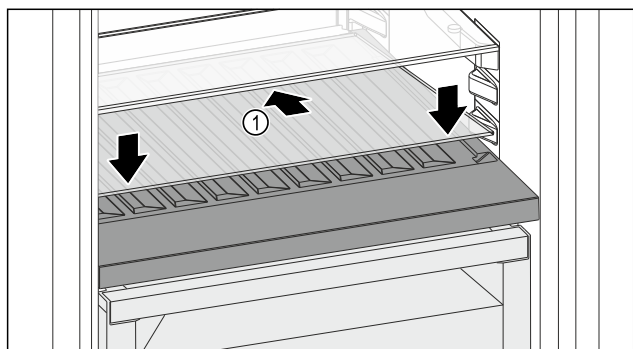

Fig. 144
- Place the glass shelf Fig. 144 (1) at an angle, sloping it downwards and backwards.
- Lower the glass shelf Fig. 144 (1) at the front.